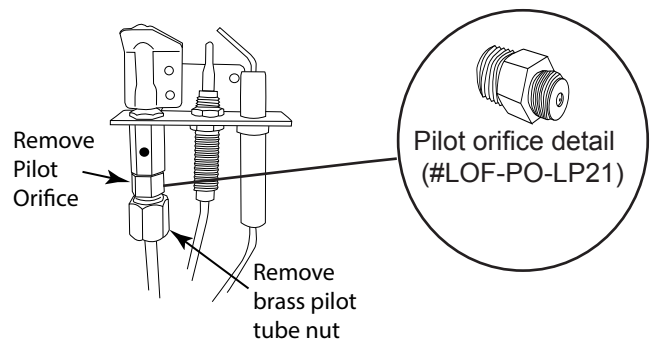

Fig. 5 Pilot orifice location.
Step 9: First, remove the brass nut from the pilot tube assembly. Then, unscrew the pilot orifice and replace it with new LP orifice. Finally, reattach the pilot tube fitting to the pilot assembly. See Fig. 5.